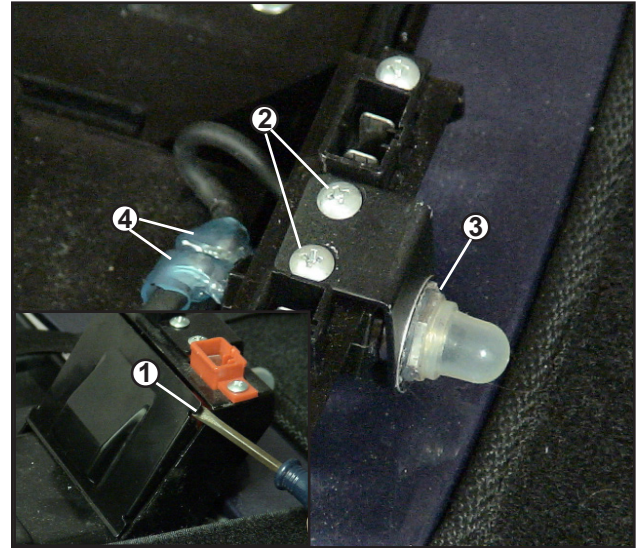

Figure 27. Circuit Breaker
6. Use a slotted screwdriver to pry off the circuit breaker cover. **(See #1 on figure 27.)**
8. Remove the two (2) screws that fasten the circuit breaker to the battery connectors. **(See #2 on figure 27.)**
9. Use a socket or an adjustable wrench to remove the nut that fastens the circuit breaker to the bracket **(See #3 on figure 27.)**
10. Use a Phillips screwdriver to disconnect the power harness from the circuit breaker **(See #4 on figure 27.)**